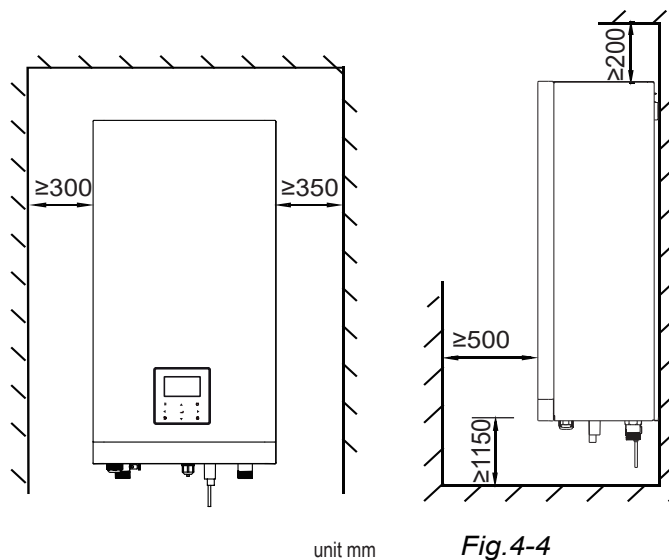

Fig.4-4
- The space around the unit is adequate for serving, see figure 4-4. The space around the unit allows for sufficient air circulation.